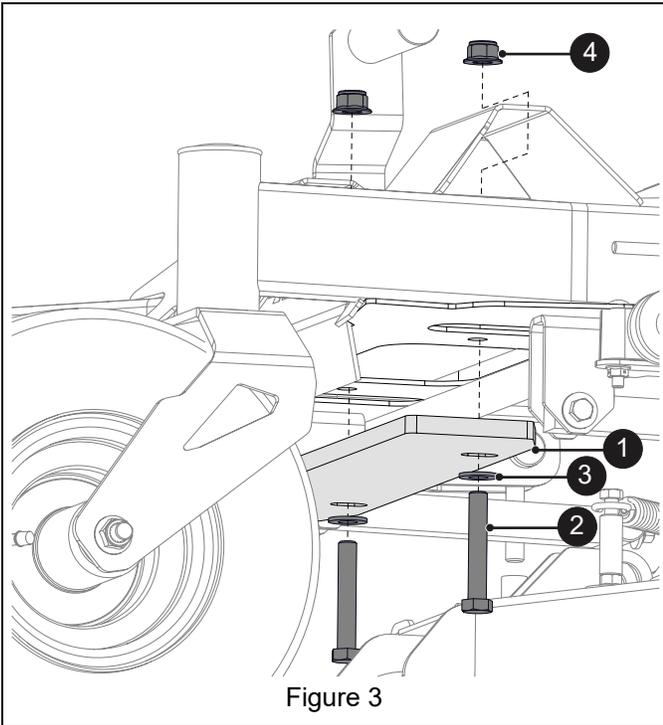

Figure 3
4. Position one counterweight plate under the frame crossmember. Plate is positioned with angled corners facing rearward. Secure weight plates with two 1/2" x 4" hex bolts (item 2), two flat steel washers (item 3) and two 1/2" nylon locking flange nuts (item 4). See Figure 3.